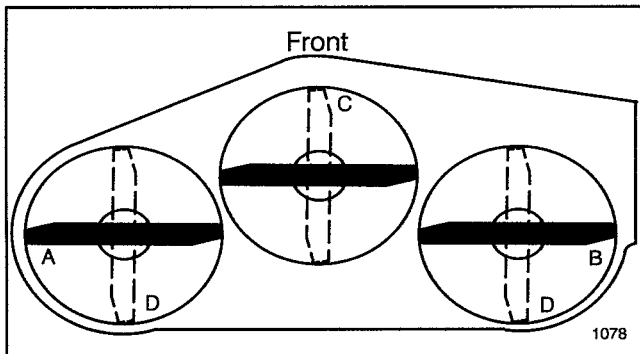
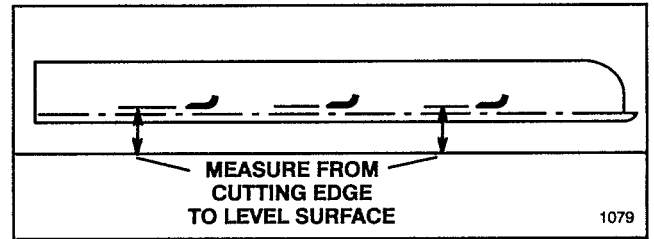

Figure 18
Figure 19
1. Position blade(s) front-to-rear (Fig. 18). Measure at "C" and "D" locations (Fig. 18), from level surface to the cutting edge of blade(s) (Fig. 19).
1. Position blade(s) side-to-side (Fig. 18). Measure at "A" and "B" locations (Fig. 18), from level surface to the cutting edge of blade(s) (Fig. 19).